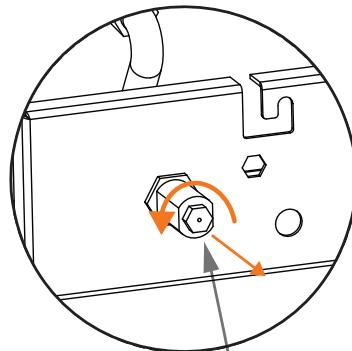
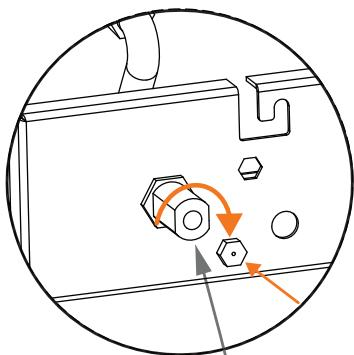

FIG. 2 - REMOVE LPG INJECTOR
FIG. 3 - ATTACH NATURAL GAS INJECTOR
4. Refer to the diagrams on page 49. Use a socket spanner to remove each LPG injector (located on the valve tip) by turning in an anticlockwise direction as shown in Fig. 2. Carefully remove each LPG injector and replace them with the correct NG injectors (see Fig 3.) according to the barbecue data plate (see page 73).